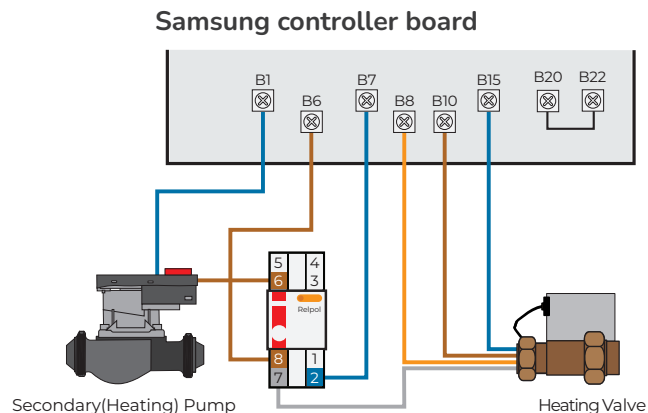

figure 2
1. Use a 2-core cable to connect the relay to B6 and B7 on the Samsung control board (figure 2).